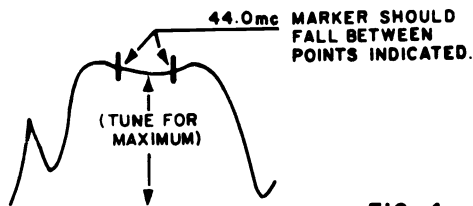

FIG. 4
14. Reduce output of generator until a usable display is produced on the oscilloscope and again adjust the tuner output coil (T-9), this time tuning for maximum gain midway between the peaks of the band-pass as indicated in Fig. 4. The 44.0 mc marker should fall between the tolerances indicated.